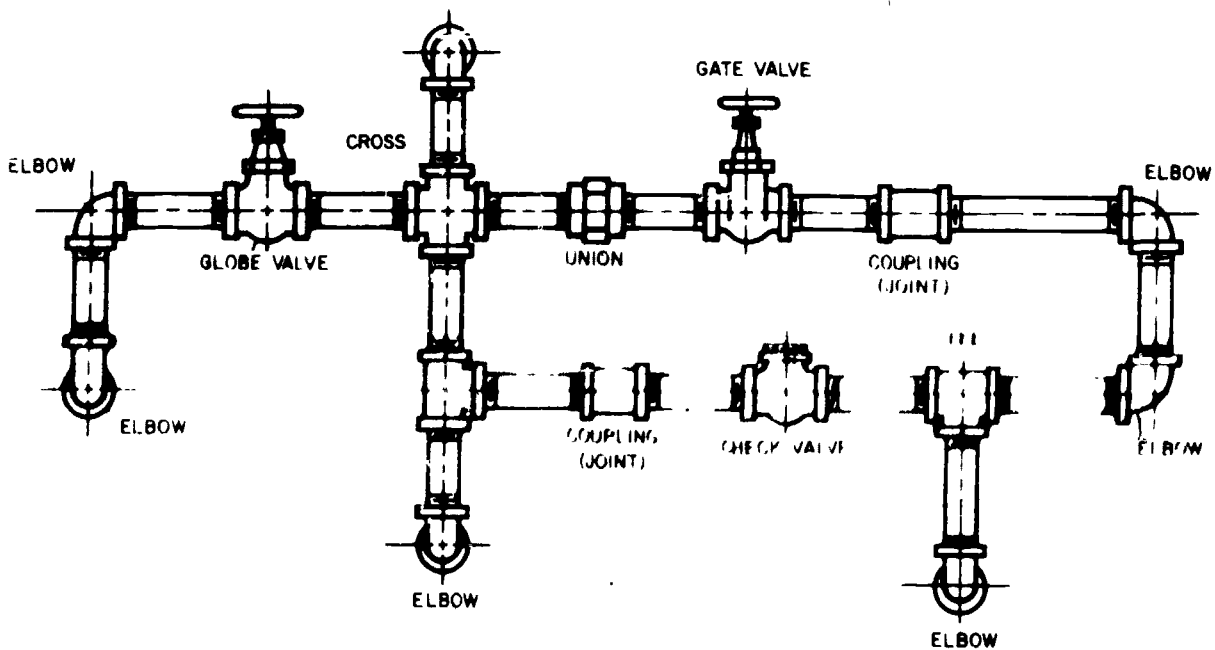

Figure 10.3 Double Line Drawing
1. Make a single-line isometric drawing of figure 10.3.